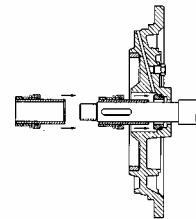

Fig.: 8
7. Montar la parte girante del cierre sobre la camisa o eje cuidando de no dañar la junta tórica. (fig. 8)
7. *Mount the movile parts of the new mechanical closing on axis jacket taking care of not making damage the joing. (fig. 8)*